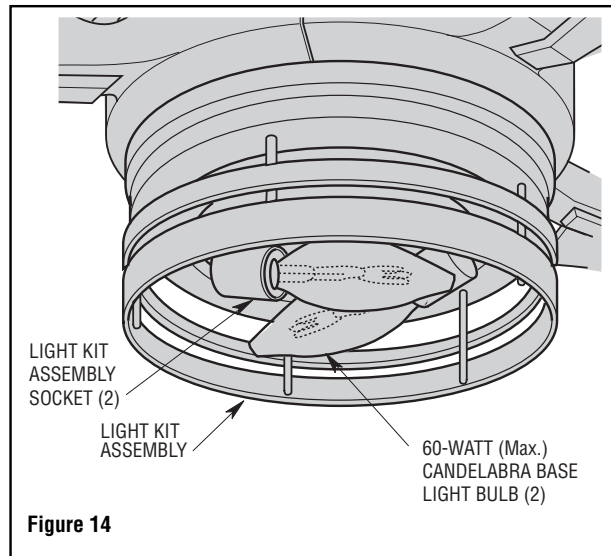

Figure 14
1. Install two 60-watt (maximum) candelabra base light bulbs (included) into the light fitter sockets (Figure 14).